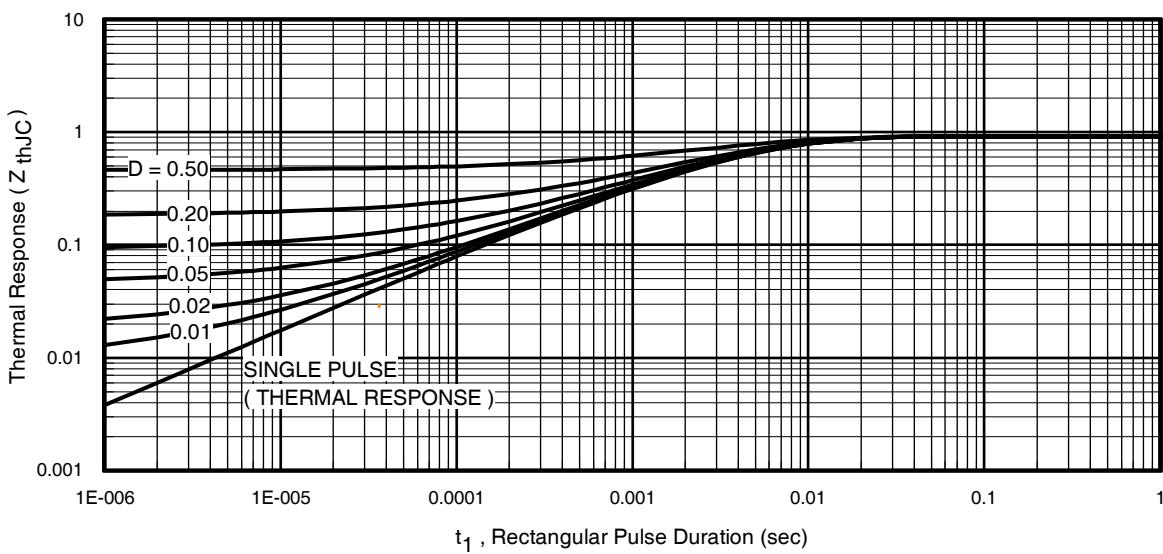
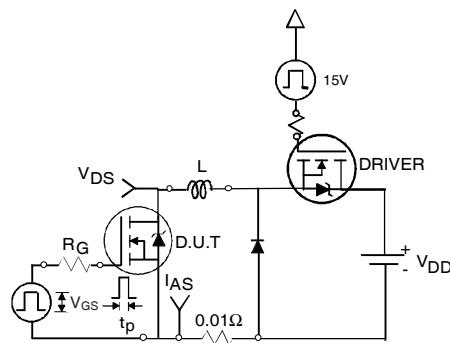

Fig 11. Maximum Effective Transient Thermal Impedance, Junction-to-Case
Fig 12a. Unclamped Inductive Test Circuit
- ① Repetitive rating; pulse width limited by max. junction temperature. (See fig. 11).
- ② Limited by $T_{J\text{max}}$, starting $T_J = 25^\circ\text{C}$, $L = 0.27\text{mH}$, $R_G = 25\Omega$, $I_{AS} = 35\text{A}$, $V_{GS} = 10V$. Part not recommended for use above this value.
- ③ $I_{SD} \leq 35\text{A}$, $di/dt \leq 380\text{A}/\mu\text{s}$, $V_{DD} \leq V_{(\text{BR})\text{DSS}}$, $T_J \leq 175^\circ\text{C}$.
- ④ Pulse width $\leq 1.0\text{ms}$; duty cycle $\leq 2\%$.
- ⑤ $C_{oss \text{ eff.}}$ is a fixed capacitance that gives the same charging time as C_{oss} while V_{DS} is rising from 0 to 80% V_{DSS} .
- ⑥ Limited by $T_{J\text{max}}$, see Fig.12a, 12b, 15, 16 for typical repetitive avalanche performance.
- ⑦ This value determined from sample failure population. 100% tested to this value in production.
3. Equation below based on circuit and waveforms shown in Figures 12a, 12b.
- $Z_{thJC}(D, t_{av})$ = Transient thermal resistance, see figure 11)